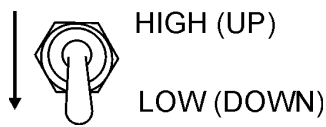

Figure 55. Engine Speed Switch (High)
2. Place the engine speed switch in the "LOW" position (Figure 55).